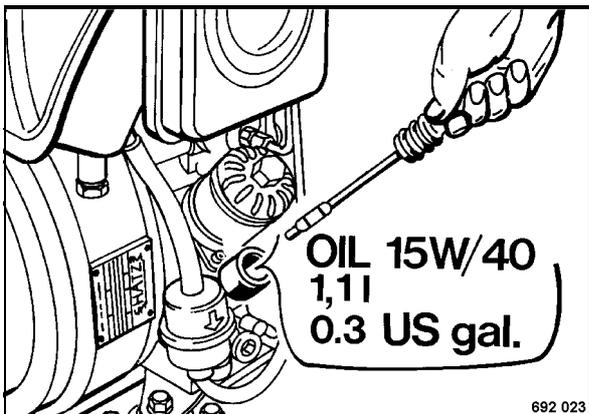

Fig. 63
- Stand the vibratory plate horizontally and fill in new oil (Fig. 63).